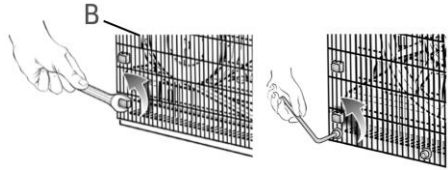

Fig. 5
1. Remove the external part of the safety guard (B) by loosening and removing the fasteners with a wrench (not included) (Fig. 5).
3. Use a hex key (not included) to remove the internal part of the safety guard (Fig. 5).